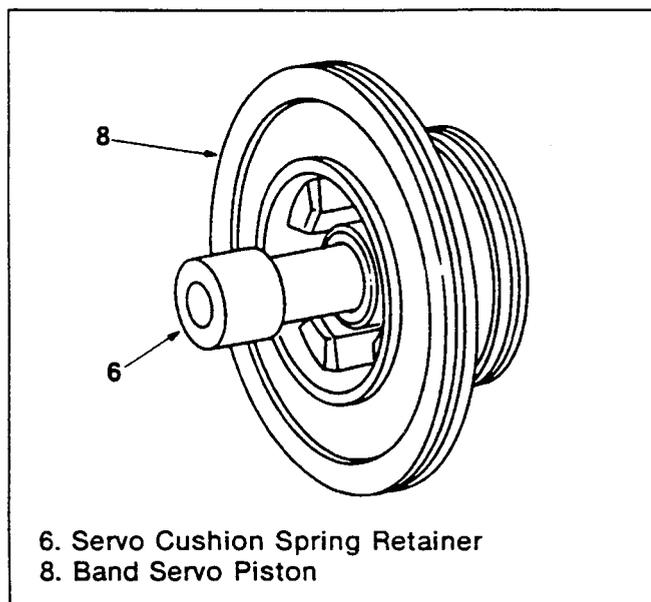

Figure 217. Servo Cushion Spring Retainer Installation
(Figures 217, 218, 219, 220, 221 and 222)
1. Attach the servo cushion spring retainer to the band servo piston (figure 217).